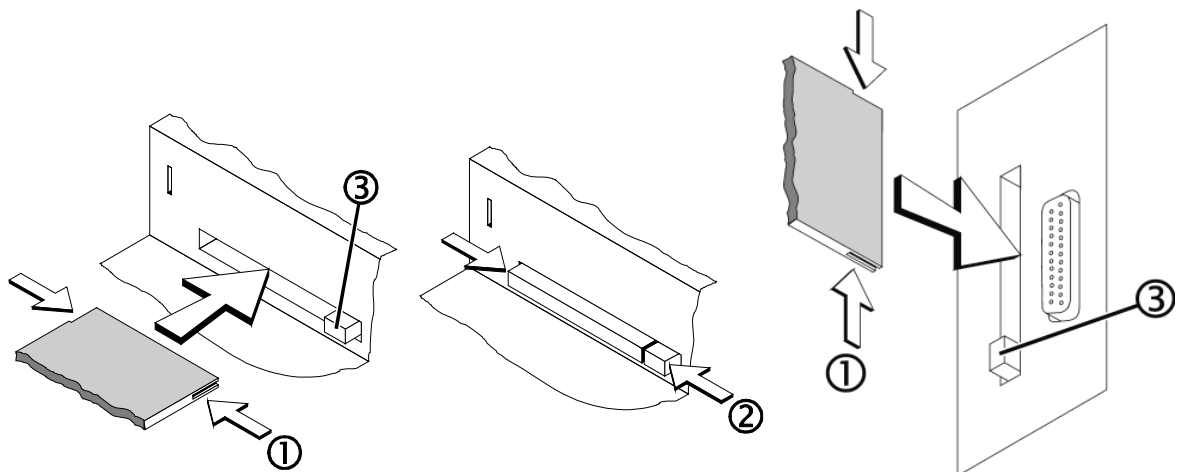

Figure 42, Inserting a PC-Card
Press the eject button ③ (see Figure 42, Inserting a PC-Card) on the right hand side of the PC-Card to remove the card.